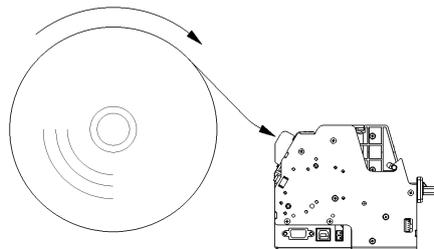

Figure 4.7-1 Paper loading
- 1) Turn on power and place the paper head into the paper feeding path as shown in figure 4.7-1:
- 2) Refer to figure 4.7-1, push the paper into paper inlet slightly for a certain distance, and release the hand when the platen roller starts to rotate and hold the paper;